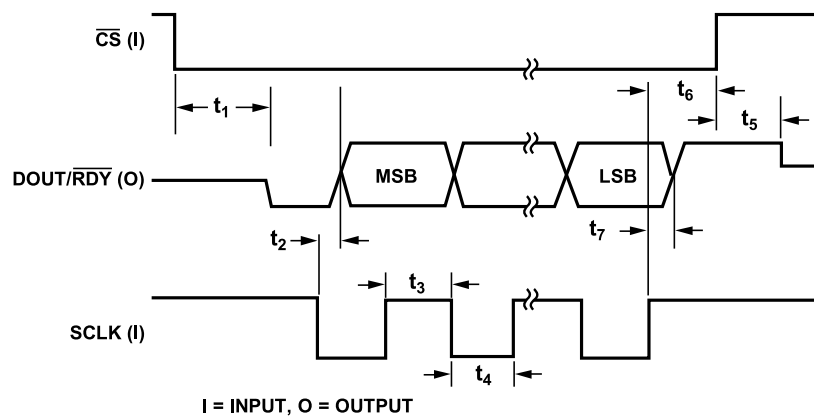
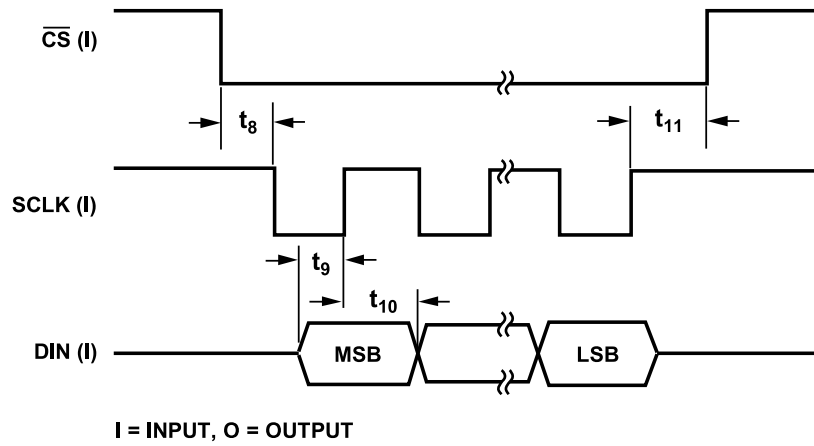

Figure 2. Read Cycle Timing Diagram
Figure 3. Write Cycle Timing Diagram
- 2. See Figure 2 and Figure 3.